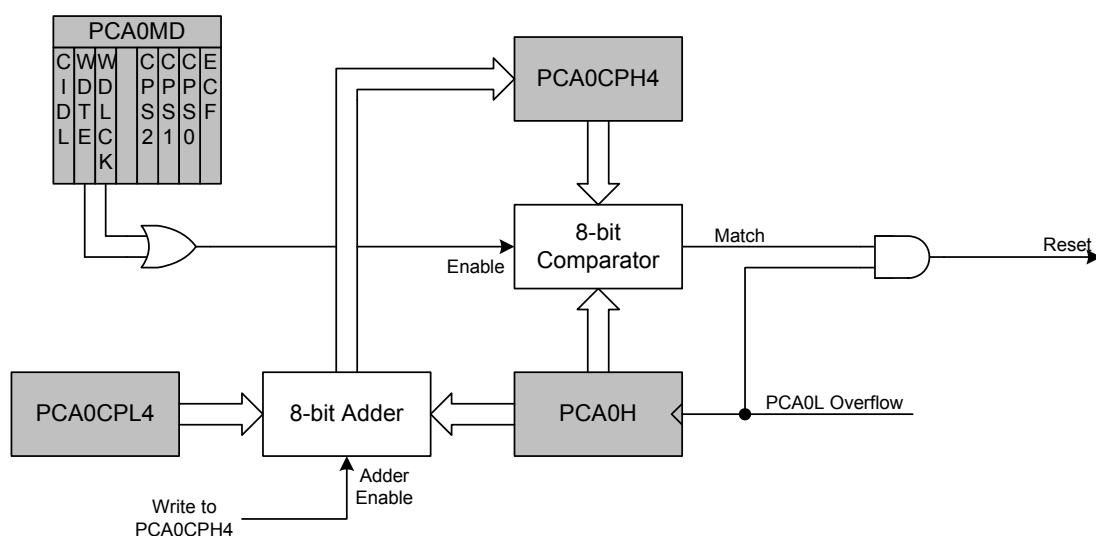

Figure 27.10. PCA Module 4 with Watchdog Timer Enabled
While the WDT is enabled, writes to the CR bit will not change the PCA counter state; the counter will run until the WDT is disabled. The PCA counter run control bit (CR) will read zero if the WDT is enabled but user software has not enabled the PCA counter. If a match occurs between PCA0CPH4 and PCA0H while the WDT is enabled, a reset will be generated. To prevent a WDT reset, the WDT may be updated with a write of any value to PCA0CPH4. Upon a PCA0CPH4 write, PCA0H plus the offset held in PCA0CPL4 is loaded into PCA0CPH4 (See Figure 27.10).